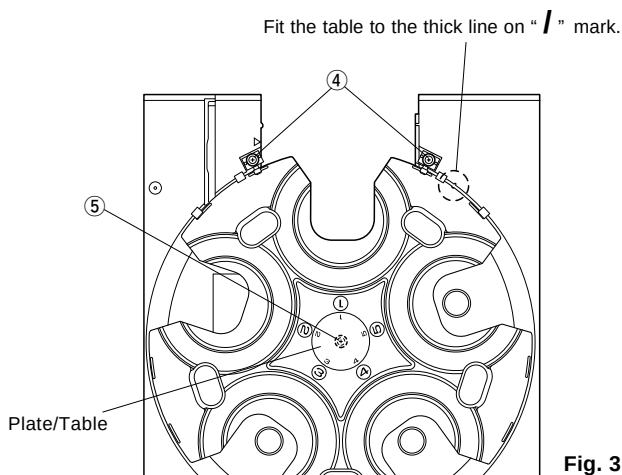

Fig. 3
- a. Remove 2 screw (④) and then remove the Roller Ass'y as shown in Fig. 3.
b. Remove the Plate/Table as shown in Fig. 3.
c. Remove 1 screw (⑤) and then take off the Table as shown in Fig. 3.
- 3) Install the Table by aligning it to the thick line on "I" mark. (Fig.3)